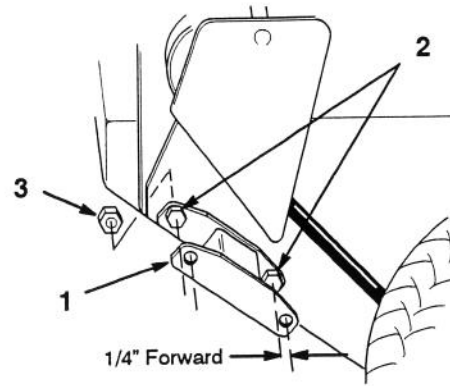

Figure 4
- Remove lower right rear bracket support/belt guide hardware (Fig. 4). Save (2) lock nuts and (1) bolt for use later.
- Position rear adaptor against traction drive frame so outer flange is 1/4 in. forward, as shown in (Fig. 4). Use previously removed lock nuts and (2) 3/8 x 1-1/4 in. bolts furnished with bagger to secure to traction drive frame. Place bolts through inside flange then into traction drive frame.